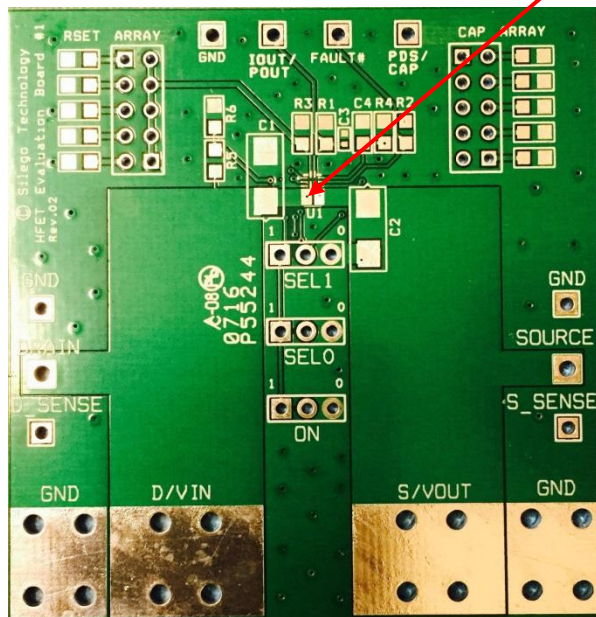
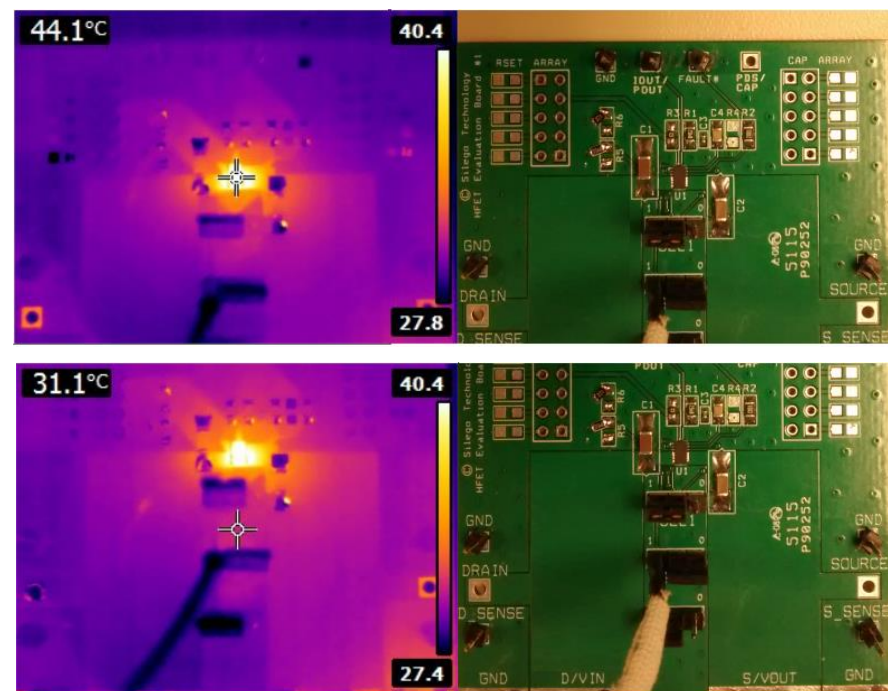

Figure 3. SLG59H1012V Evaluation Test Board
Figure 6. Thermal distribution for VIN = 20V @ 4.5A after 2 min power up
- 2.2. The VIN and VOUT pins carry significant current. Please note how the VIN and VOUT pads are placed directly on the power planes in Figure 3, which minimizes the RDS(ON) associated with long, narrow traces. The VIN and VOUT pins dissipate most of the heat generated during high-load current condition. The layout shown in Figure 3 is illustrating a proper solution for heat to transfer as efficiently as possible out of the device. Thermal distribution on the board with such solution is illustrated in Figure 6.